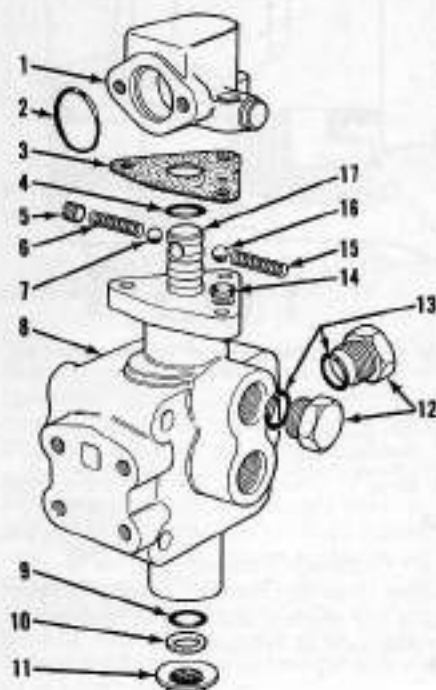

Fig. 215—Exploded view of three-way valve showing component parts and their related positions.
**391. THREE-WAY VALVE.** Three-way valve (Fig. 215) mounts on front end of rockshaft cylinder and is used to control flow of oil either to rockshaft cylinder or a single acting remote cylinder.
Valve spool (17—Fig. 215) and body (8) are serviced as a complete unit only. Make certain breather (11) is clean and not damaged. Detent balls (7 and 16) and springs (6 and 15) are located in bore of lever bracket (1). Install one spring and ball in blind hole and hold ball depressed with pin punch while installing lever bracket on valve and valve body assembly. Install second detent ball and spring and retain with plug (5).